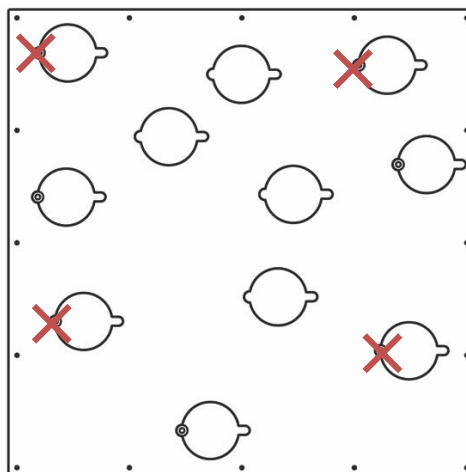

Figure 3.4.2: Suggested mounting points for bottom panels
4. Choose 4 mounting points (shown in **Figure 3.4.2**) within the pod holes to mount each section to the wall using appropriate fixings.